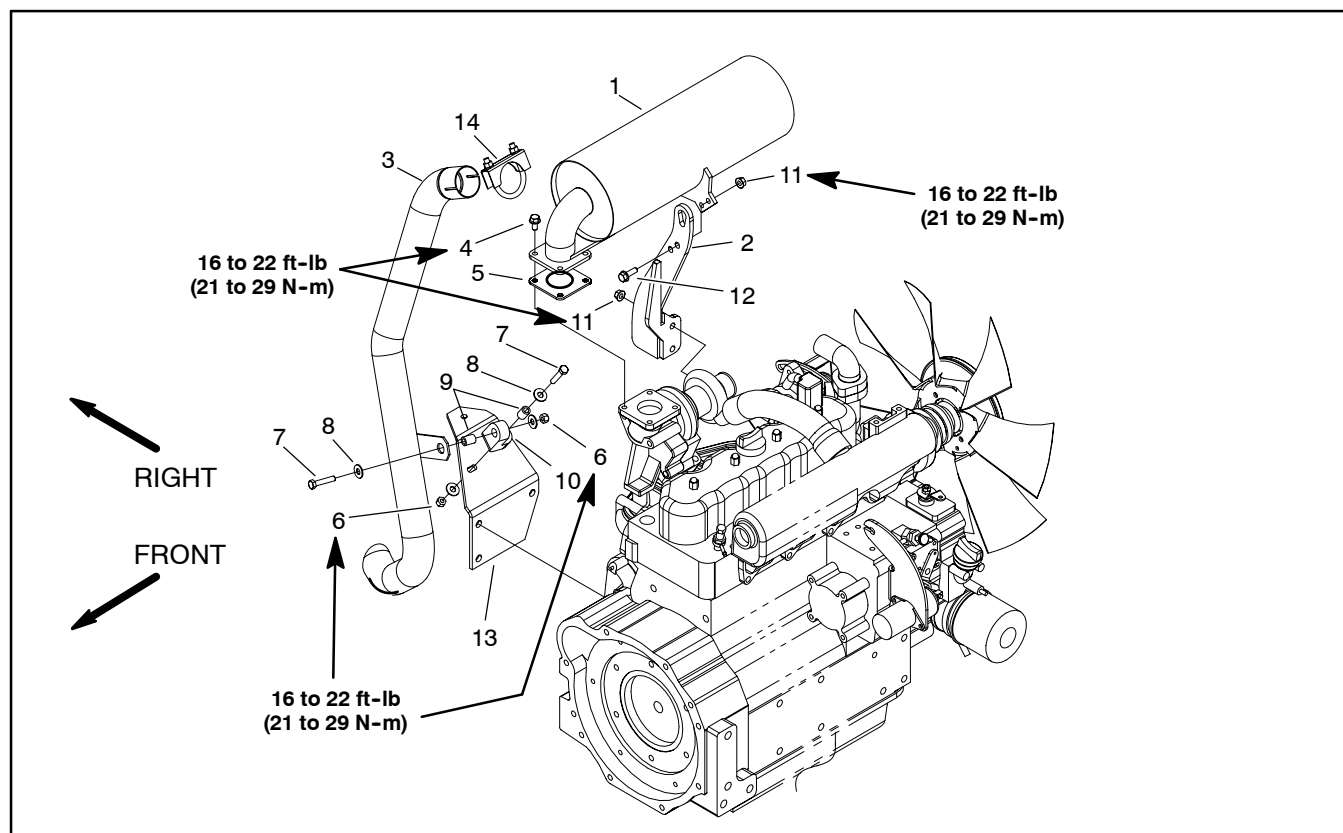
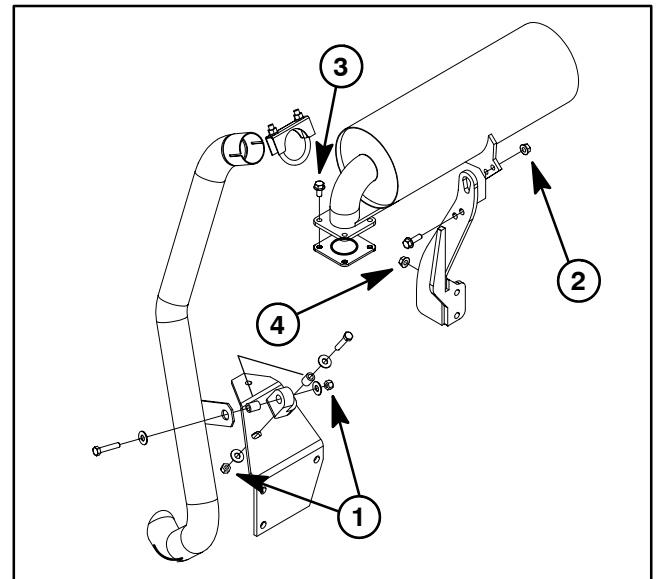

Figure 5
Figure 6
2. Remove muffler and/or muffler bracket from the engine as necessary using Figure 5 as a guide.
2. Install muffler and/or muffler bracket to the engine using Figure 5 as a guide. Hand tighten and then torque the following fasteners from 16 to 22 ft-lb (21 to 29 N-m) in the sequence listed (Fig. 6):